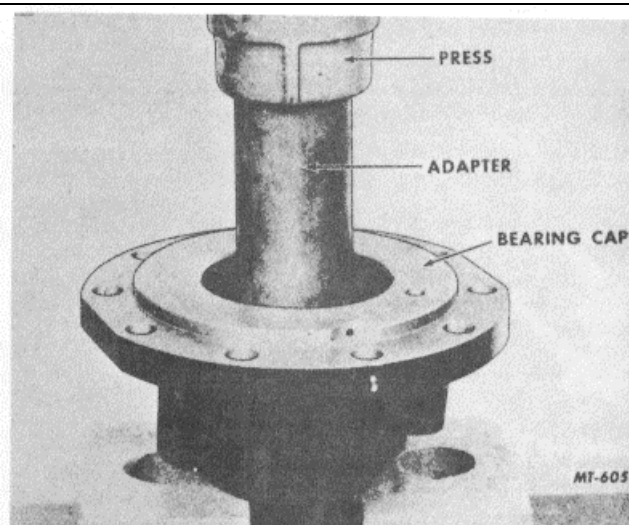

Fig. 31
13. Press a new oil seal and dirt seal into bearing cap, Figs. 31 and 32.